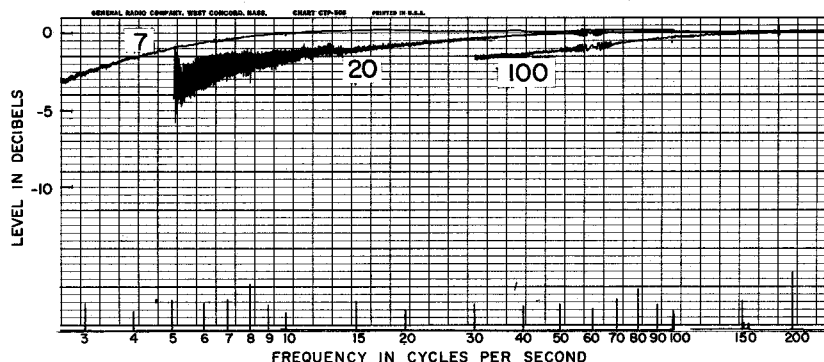

Figure 3.1. Frequency-response plot of the recorder for various positions of the low-frequency cutoff switch.
**3.2.5 LOW-FREQUENCY CUTOFF.** The WRITING SPEED switch also changes the low-frequency cutoff. This information is engraved on the front panel. The engraved frequency corresponds to the point where the response is less than 1 db down. Figure 3.1 shows the frequency-response plot of the recorder for various positions of the low-frequency cutoff switch. Figure 3.2 shows the low-frequency response to a 1/3-octave